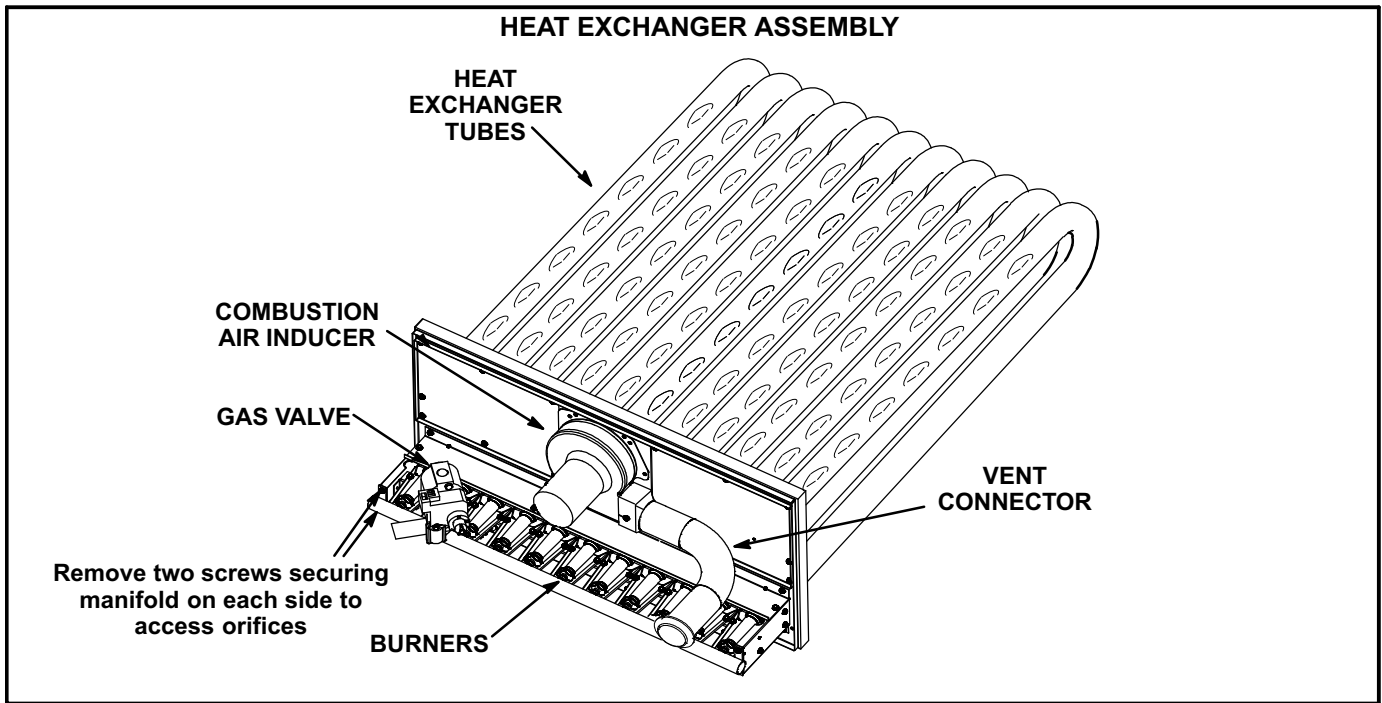

FIGURE 1
- 4- Remove and retain four screws securing manifold to burner box. See figure 1.